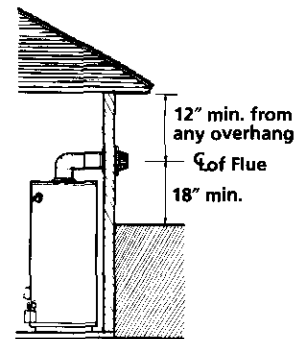

Figure 2
- 18" minimum from the ground and 12" from ceiling overhangs. Figure 2.